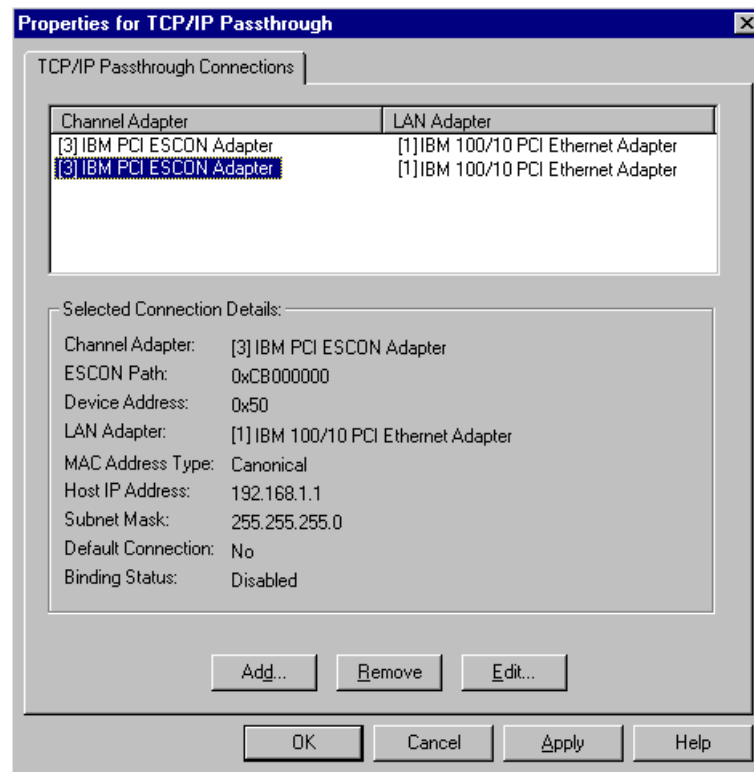

Figure 16-19. TCP/IP Subchannel Configuration
2. Click on **Properties**. Verify the subchannel addresses match the ESCON and mainframe configurations (Figure 16-19). Remember that each TCP/IP connection requires two subchannel addresses. If your TCP/IP Passthrough configuration has subchannel 50 defined, your ESCON and mainframe configurations must have both subchannel 50 and 51 defined.